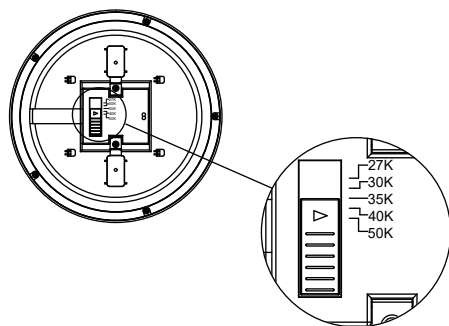

fig. 1
2. Adjust the color temperature by sliding the selector switch; don't leave it in between positions. (fig. 1)